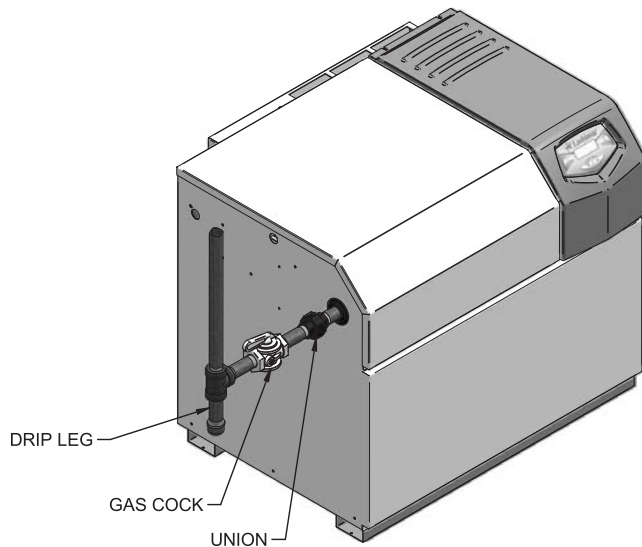

Figure 6-1_Gas Line Connection to unit w/sediment trap and manual main gas shut-off valve
5. Install a sediment trap (drip leg) in the supply line to the pool heater's gas inlet (see FIG. 6-1).